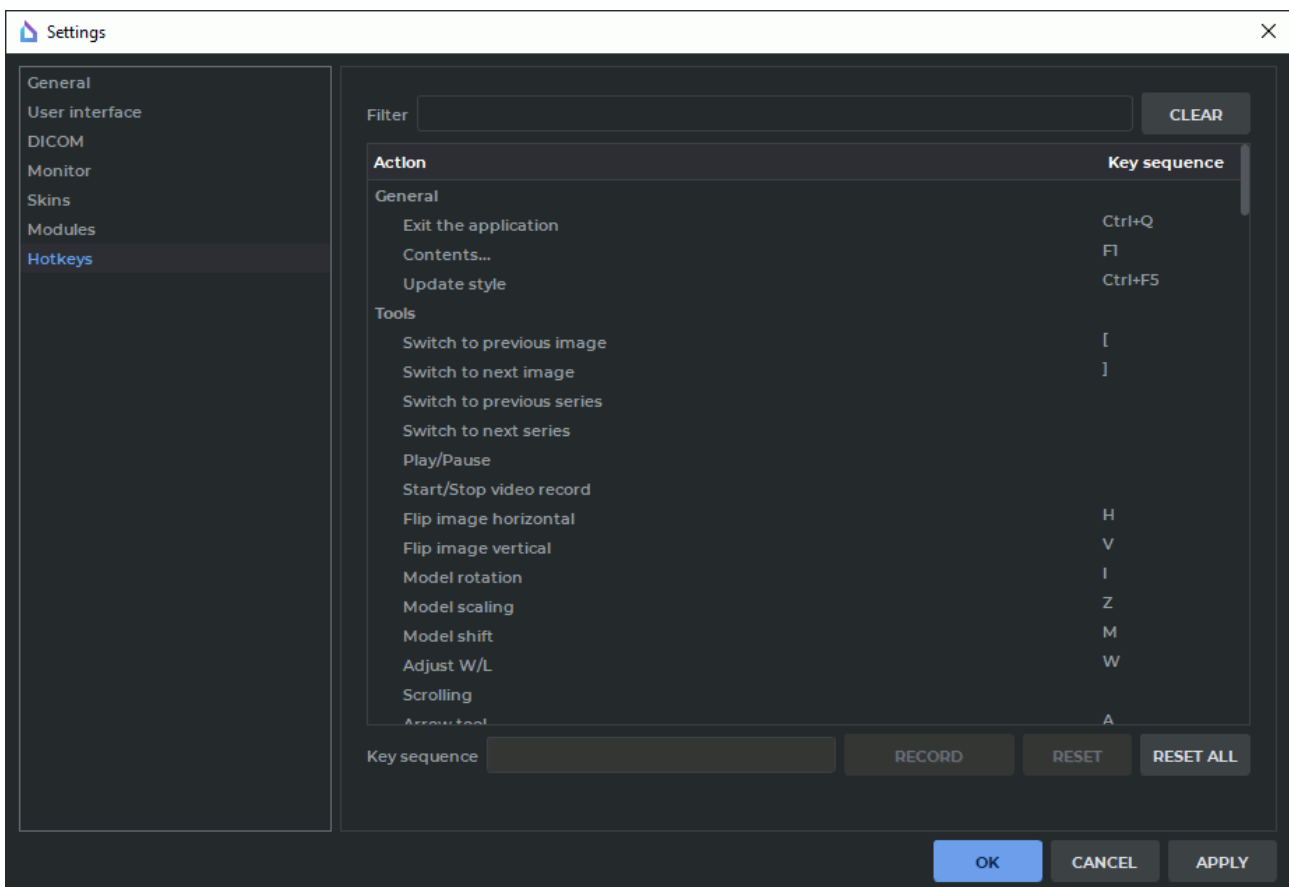

Figure 15.5: Hotkeys
2. Open the **Hotkeys** section. The window similar to the one shown in Fig. 15.5 will pop up.